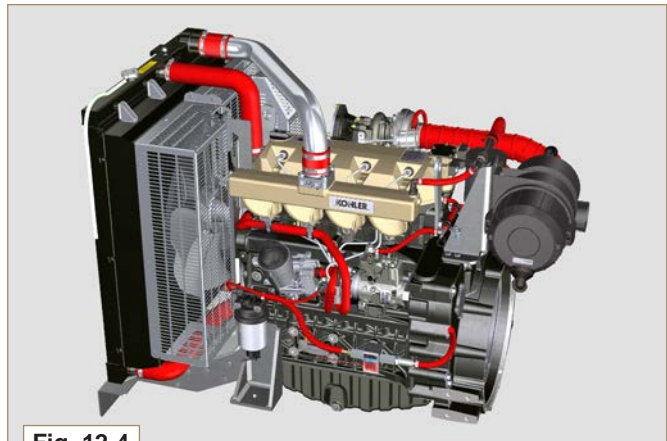

Fig. 12.4
- 1 - Check the condition of all hoses and rubber tubes highlighted in red in **Fig. 12.4 - 12.5**.